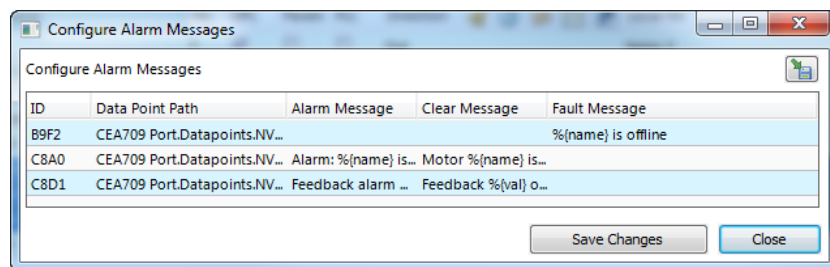

Figure 62: Spreadsheet for multi-edit of alarm messages.
- **Configure Alarm Messages:** Use this option from the context menu for editing alarm messages (alarm, clear, fault) for all data points in the selection. A dialog with a spreadsheet view appears as shown in Figure 62. Edit the messages directly in the spreadsheet. Alternatively, click on the export button  to export the spreadsheet as a CSV file for editing in Excel. Import a CSV file with alarm messages in the menu **Tools** → **Import alarm messages**.